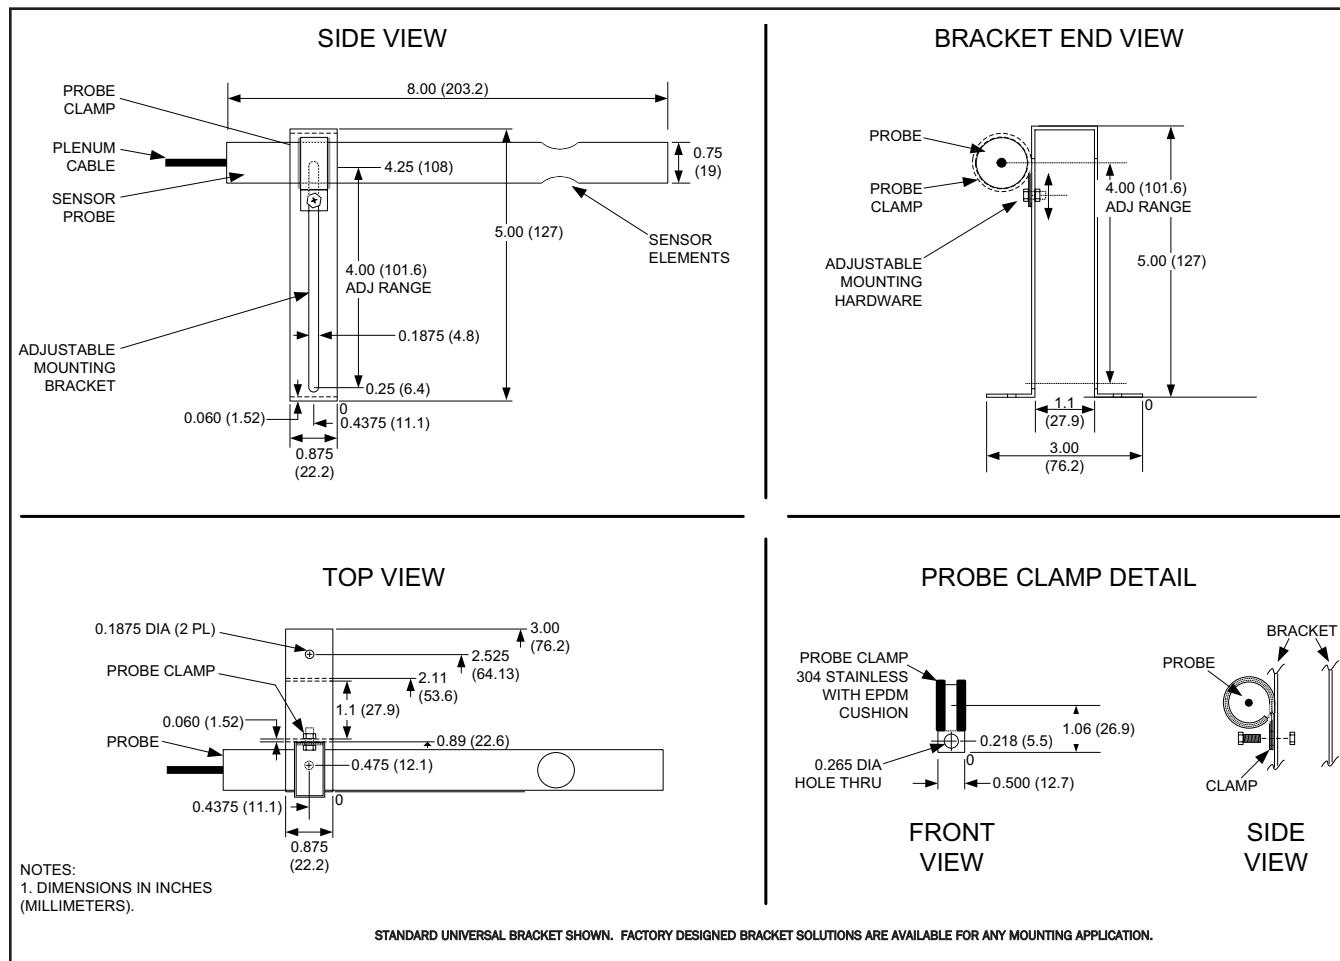

Figure 3. Sensor Probe Mechanical Detail
- Sensor probes must be installed at the factory-specified location using the integral universal bracket attached as shown in Figure 3. The universal bracket consists of a rubber probe clamp that is attached to the bracket using the included hardware. Probes can be rotated within the clamp, and the clamp can be rotated and mounted at any point along the 4-inch slot on the mounting bracket, thus providing complete mounting flexibility and adjustment. Assemble probe to the clamp and bracket so that when mounted, air flow is through the probe sensor opening, and in the same direction printed on the probe label.